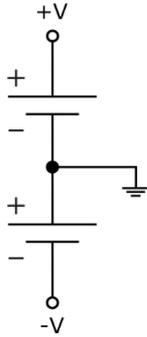

FIGURE 14-6:
Some circuits (for instance, some op-amp circuits, which are discussed in Chapter 11) require both positive and negative DC power supplies. You'll often see the positive supply represented by an open circle labeled +V and the negative supply represented by an open circle labeled -V. If the voltages are not specified, they may be +5 VDC and -5 VDC. Figure 14-6 shows how these power supply connection points are really implemented.
- » **Single ground symbol:** The schematic shows all the ground connections connected to a single point. It doesn't often show the power source or sources (for instance, the battery), but you should assume that ground connects to the positive or negative DC power sources (refer to Figure 14-6).